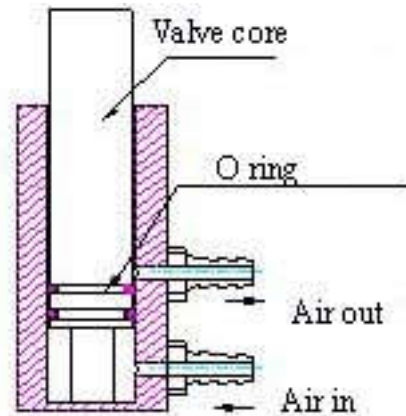

Fig.11 Rack Holding Valve
- ii. Loosen the fastening screw and take out the rack holding valve. Pull out the valve core and you can find the O ring (Fig.11).